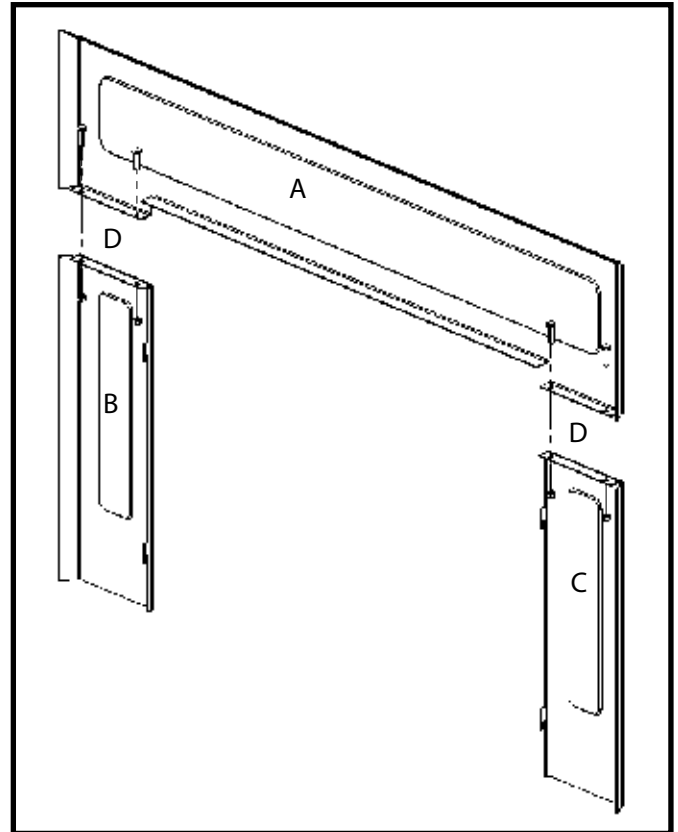

Figure 12: Surround assy.
4. Fasten the panels together with 1/4" x 1/2" bolts and nuts provided through holes at points "D" (Figure 12).